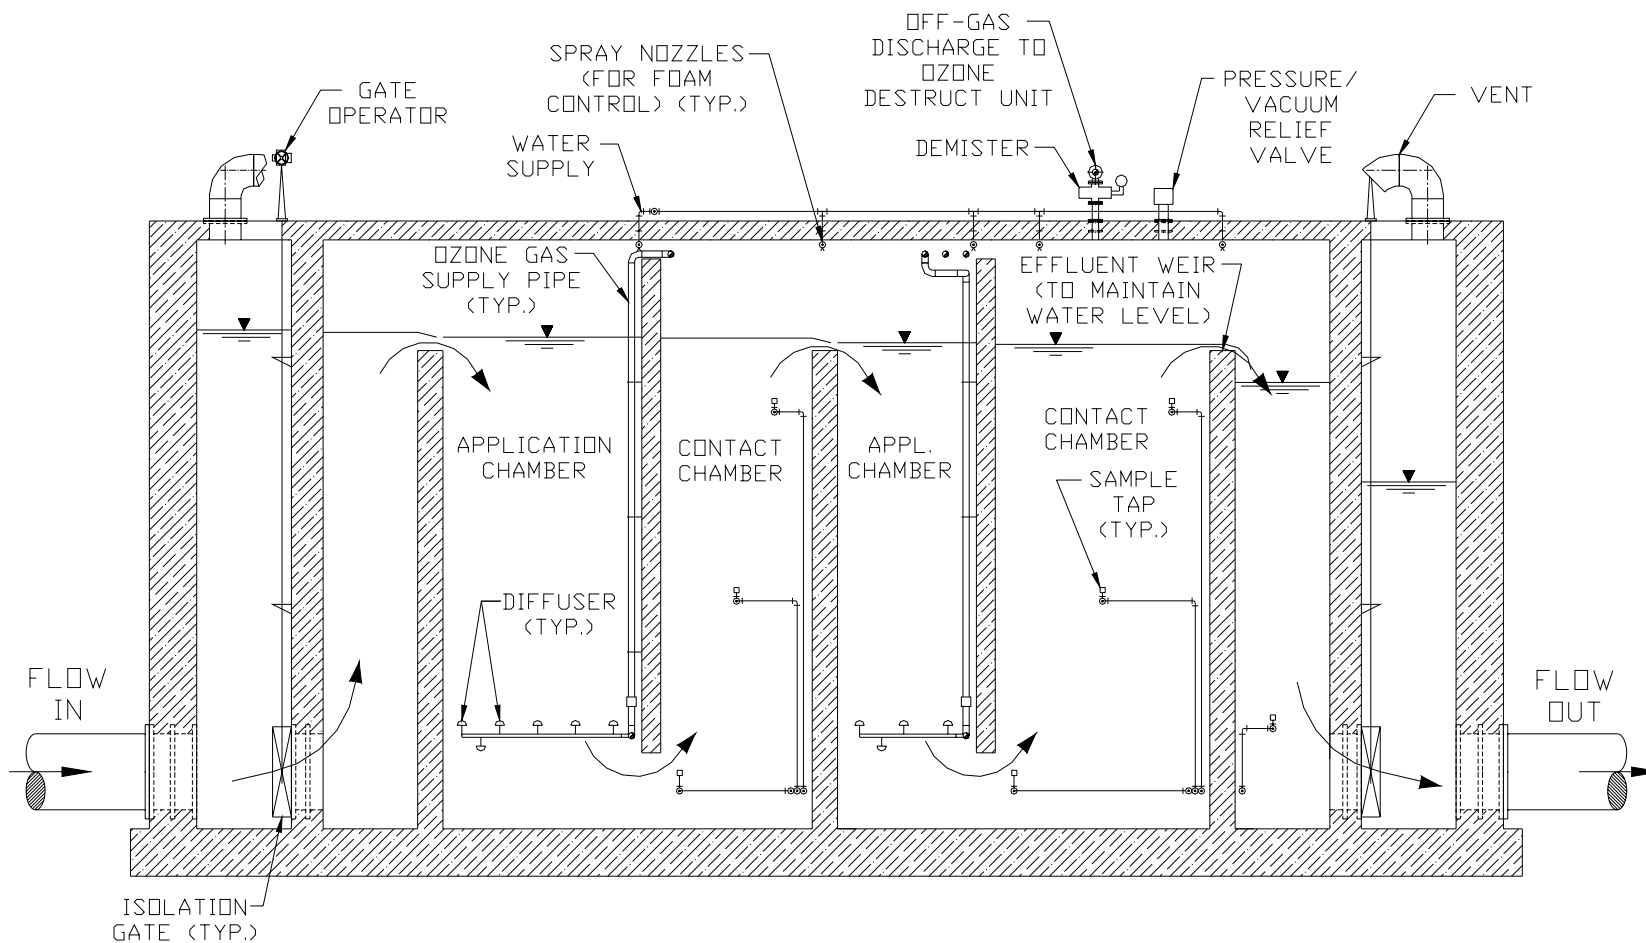

Figure 3.1 – Ozone Contact Basin
- Diffusers are generally used in closed concrete basins as in Figure 3.1. A typical basin is divided into multiple chambers by baffle walls.
- This process description pertains to the plant design shown in Fig 3.1. Other plant designs may require a different set of process steps.
- A portion of the ozone is applied by diffusers located in the first chamber in figure 3.1.